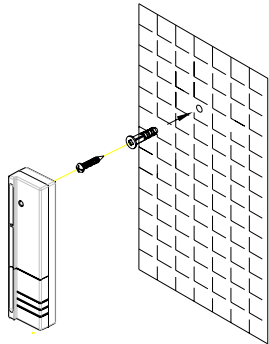

FIGURE 10a
1. Choose a position to drill a hole, insert the plastic wall plug and fix a screw on the wall. Hang up the Detector on the screw. (FIGURE 10a)